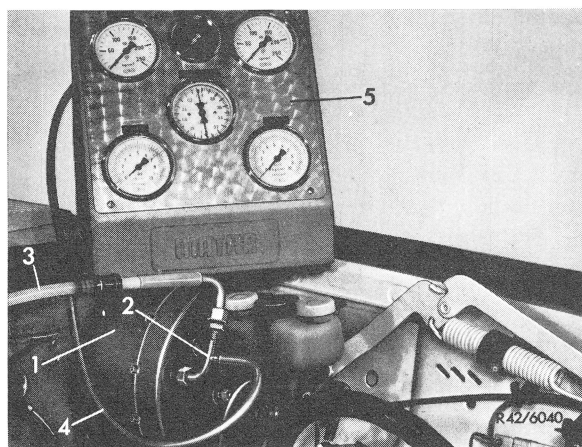

Fig. 1
- 1 Loosen vacuum line (3) on brake unit (1) and attach measuring connection (2) between brake unit and line (Fig. 1).